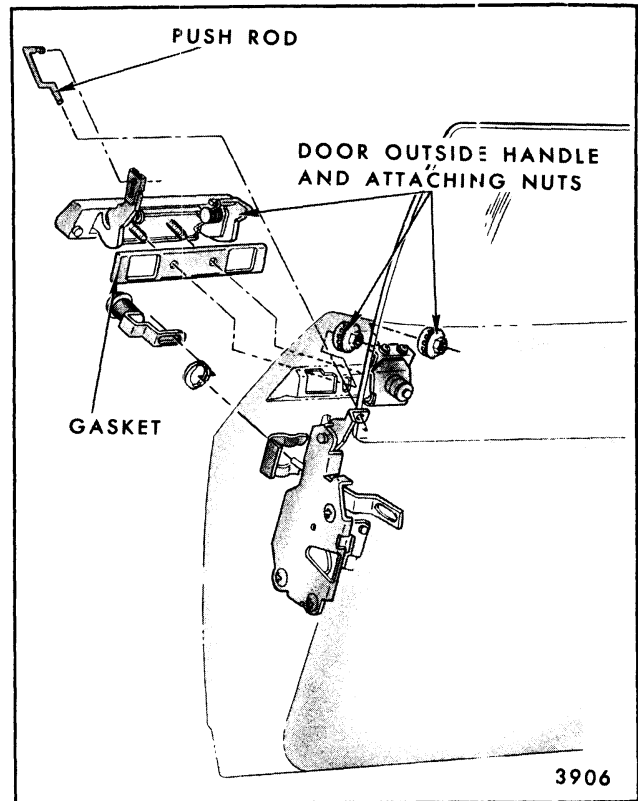

Fig. 5-29-Door Outside Handle Removal (Lift Bar Type)
**NOTE:** On "F" styles remove rear guide upper bracket to inner panel and guide assembly attaching bolts ("6" and "7", Fig. 5-50) and remove guide bracket from door. Then, working through access hole, disconnect door outside handle to lock push rod at handle assembly (Fig. 5-29).